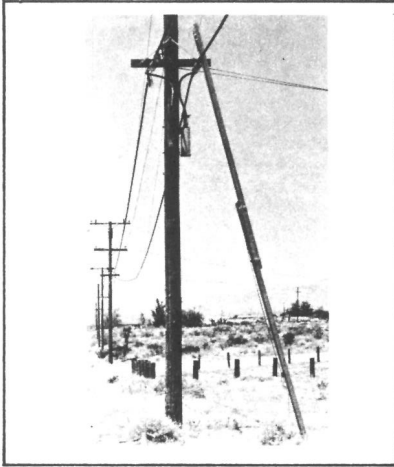

FIGURE 5.
3.03 Always select a ladder of sufficient length for the work to be done. The ladder should be long enough so that the work can be performed when standing no higher than on the fourth rung from the top so that the side rails may be grasped conveniently and safely. Figure 5 shows a ladder of the right length.